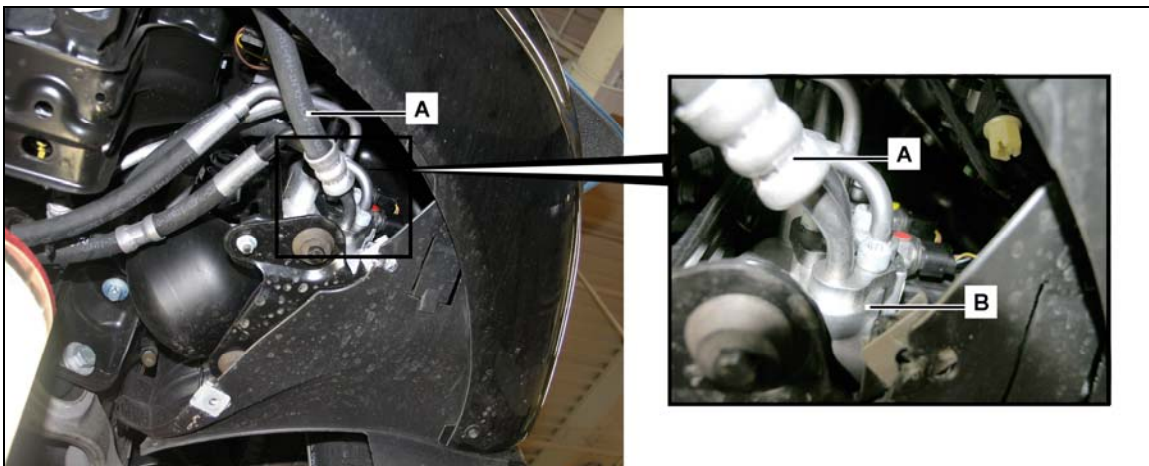

Figure 2
4. Detach ABC high-pressure line (A, Figure 2) from front axle valve unit (B).